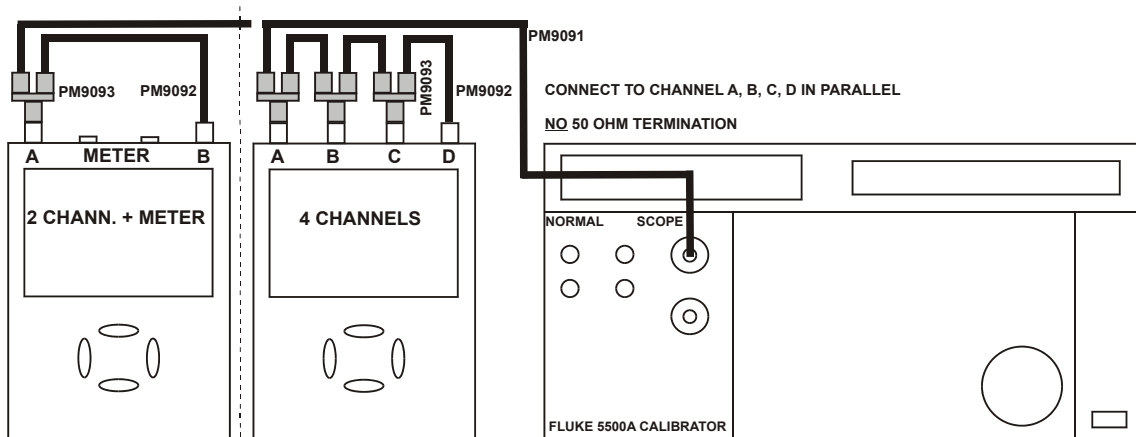

Figure 4-5. 5500A Scope Output to Test Tool Input A, B, C, D (A, B)
1. Connect the Test Tool to the 5500A as shown in Figure 4-5. Do NOT use 50 Ω terminations!
1. Connect the Test Tool to the 5500A as for the previous test (see Figure 4-5).